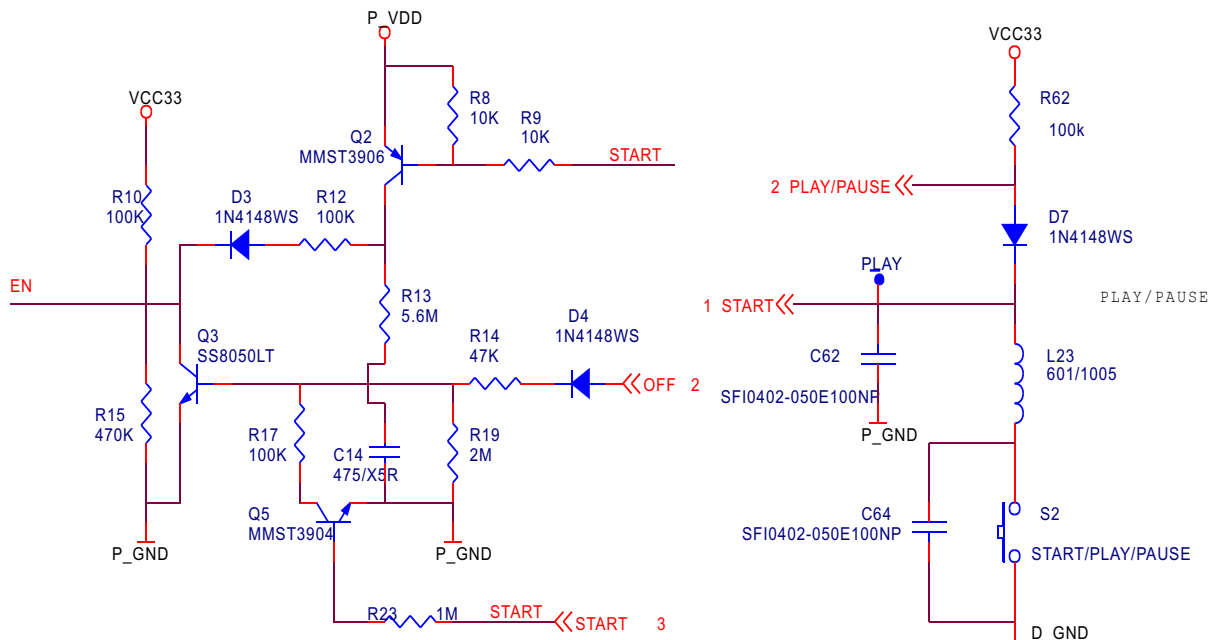

Figure 3.2.11.1 ON/OFF control circuit schematic diagram
1. ON/OFF control circuit schematic diagram is shown in the figure 3.2.11.1: